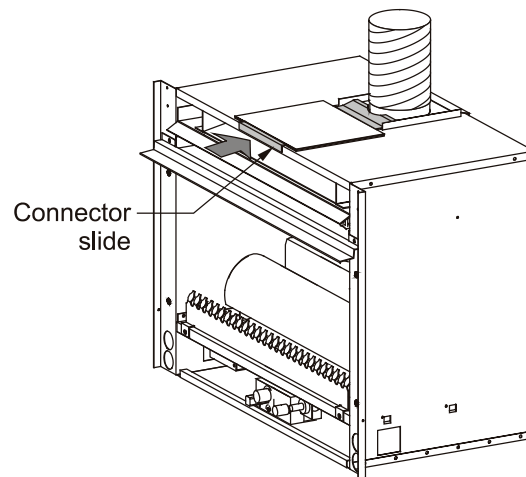

Figure 4b. Securing the chimney using the connector slide.
- Slide the Hotshot as far back as possible into the fireplace opening. Reach inside the opening above the Hotshot and insert the vent connector into the slot at the back of the fireplace. Push the connector slide back as far as it will go to secure the chimney liner in position. See figure 4b.